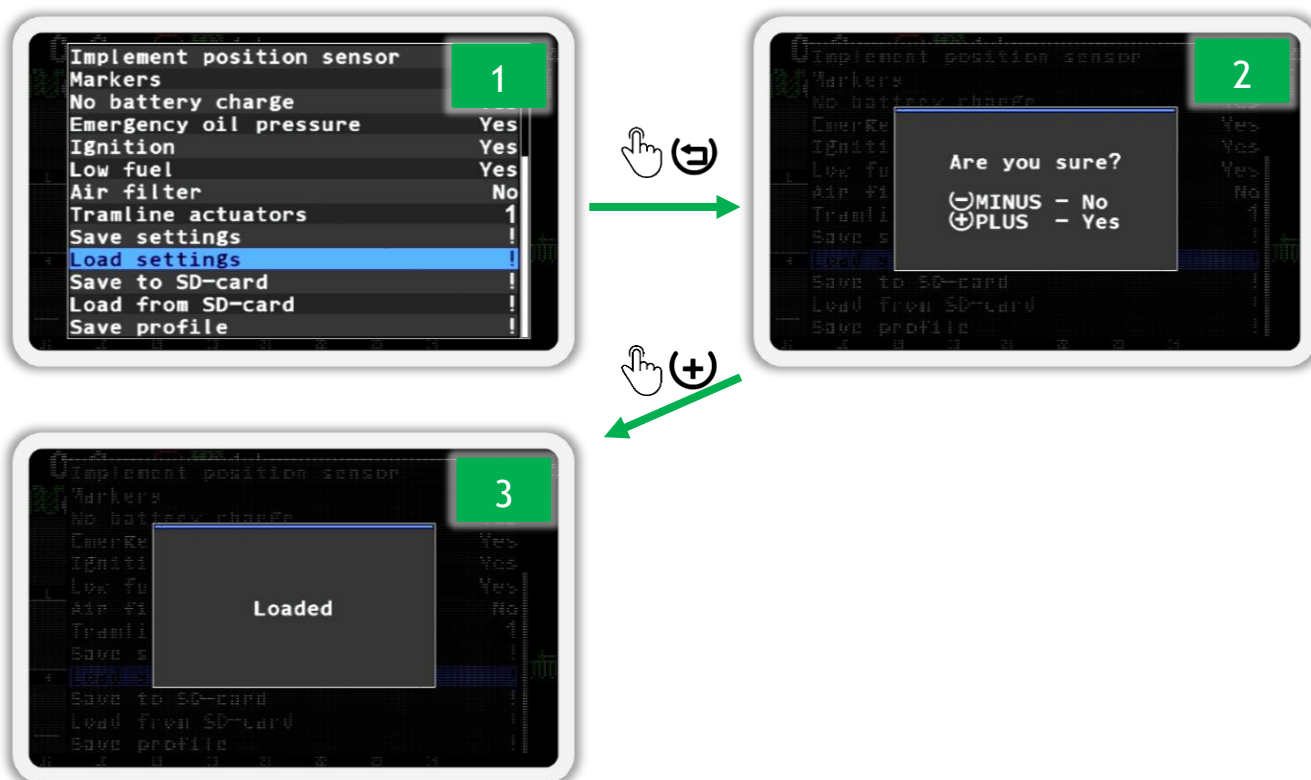

Figure 60 Loading settings
2. Select the  “Load settings” menu item (see Figure 60 p.1) and press the  “Menu” button. As a result, a message will appear on the screen asking you to confirm the selected action (see Figure 60 p.2).
3. Press the  “Plus” button to confirm. As a result, the message “Loaded” will appear on the screen (see Figure 60 p.3).